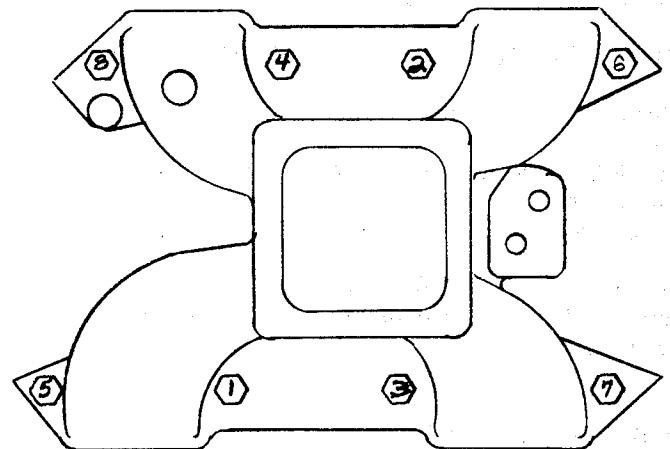

Fig. 4
- Tighten bolts to 15 ft. lbs. and progress to 30 ft. lbs. in 5 ft. lbs. increments noting the torquing sequence. See Figure 4. Retighten valve covers.